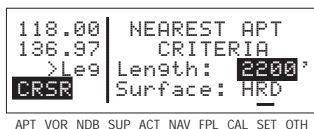

Figure 3-86
2. Use the right inner knob to select the minimum length runway desired for the airport to qualify for the nearest airport list (figure 3-86). Values between 1000 feet and 5000 feet in 100 foot increments may be selected.